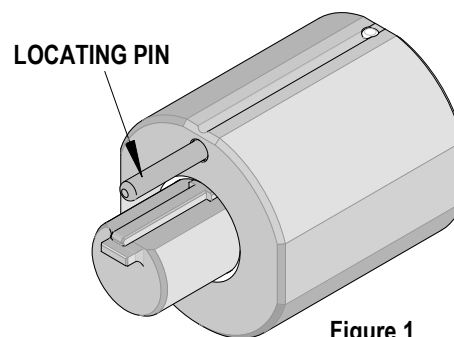

Figure 1
- ▶ For the 53 Way connector, the locating pin will need to be removed from the 63824-5400 Extractor Tool. See Figure 1.